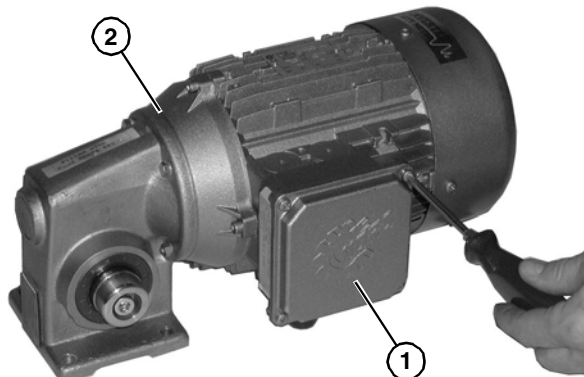

Figure 54
1. Loosen the screws and remove the cover (Figure 54, item 1) from the junction box located on the side of the motor (Figure 54, item 2).